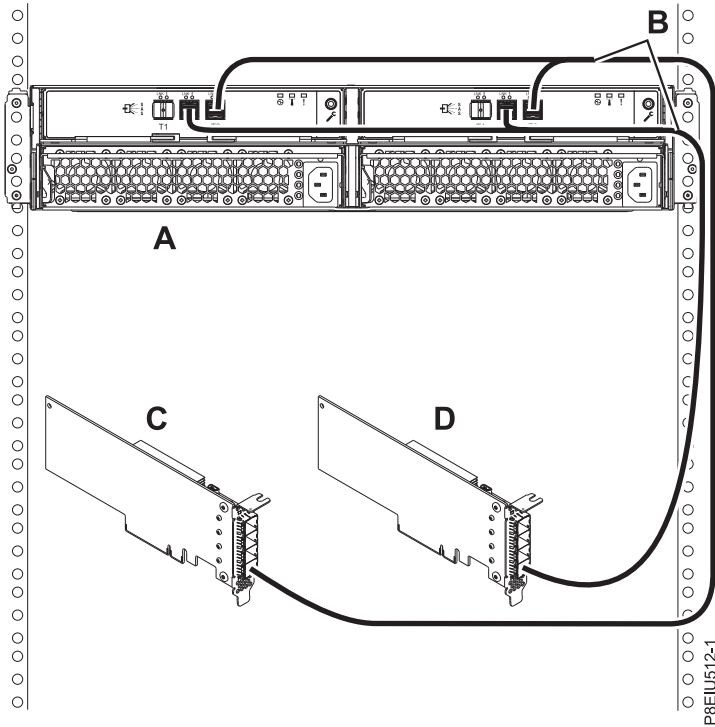

Figure 18. Mode 2 connection of one ESLL or ESLS storage enclosure by using YO12 cables to two independent FC EJ0J or FC EJ0M SAS adapters
18. Complete a mode 2 connection of one enclosure (A) by using YO12 cables (B) to two independent FC EJ0J or FC EJ0M SAS adapters, as shown in Figure 18 on page 19, and then continue with "Connecting cables, power cords, and installing covers" on page 22.
- Independent SAS adapter 1 (C) does not have access to the other independent adapter and has access only to drive bays D1 - D12.
- Independent SAS adapter 2 (D) does not have access to the other independent adapter and has access only to drive bays D13 - D24.